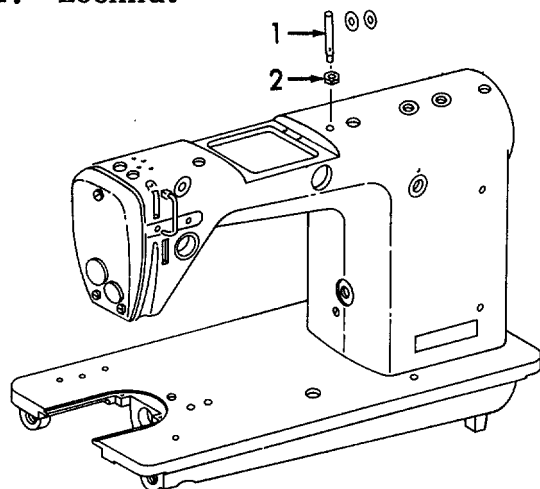

Figure 6-26. Needle Thread Guide, Installation.
- (1) Refer to Figure 6-26. Install guide pin (1) into position.
- (2) Tighten locknut (2).